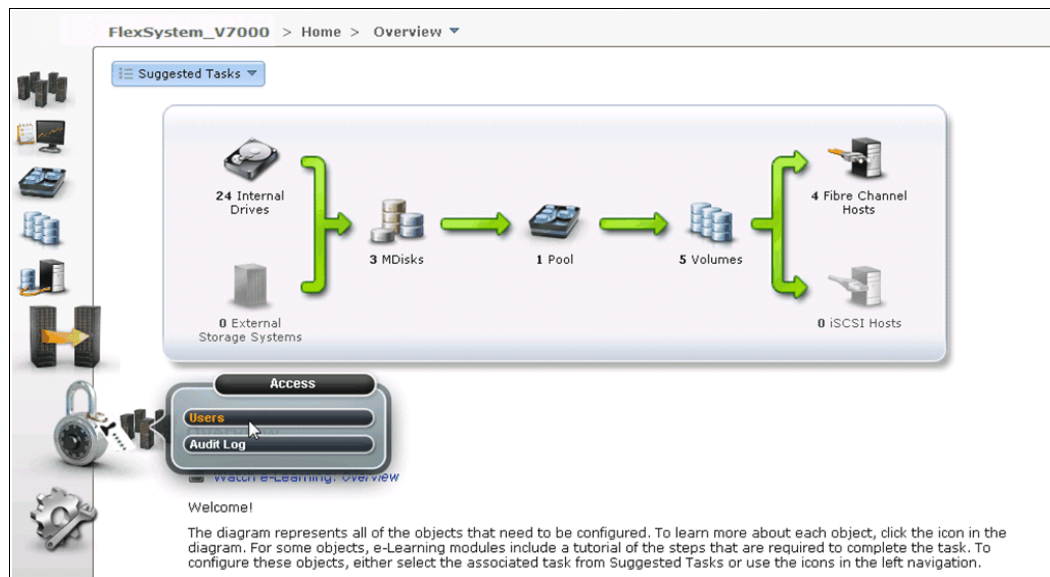

Figure 13-49 Open Users section
1. Open the user section (Figure 13-49).